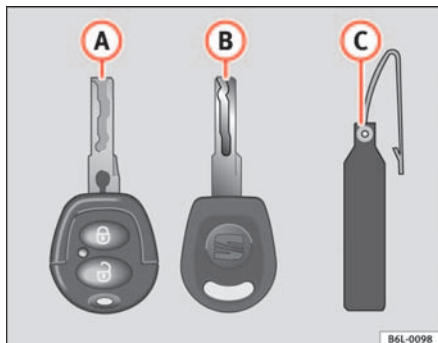

Fig. 46 Set of keys
- one remote control key ⇒ fig. 46 **A** with folding key bit\*,
Spare keys cannot be issued without the key number on the key tab ⇒ fig. 46 **B**. Therefore: